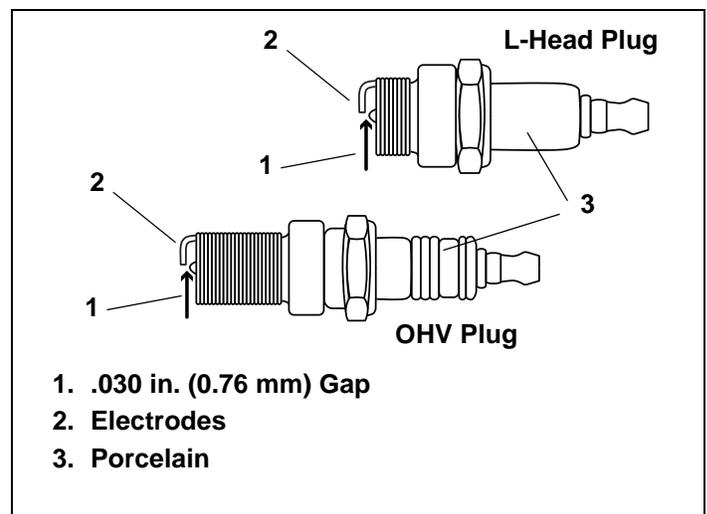

Figure 40. Resistor Spark Plug
4. Check electrode gap with wire feeler gauge and set gap to $-.030$ in.(0.76 mm) if necessary. See Figure 40.